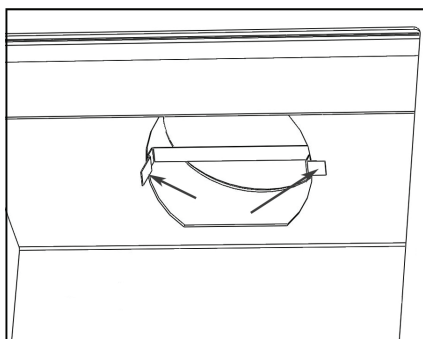

FIG.12 Bending Flue Tabs
5. Bend the two tabs over to secure the connector elbow. See FIG. 12.